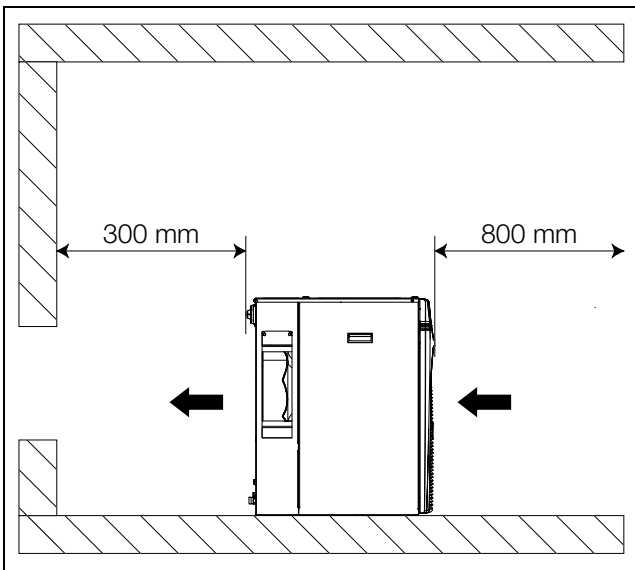
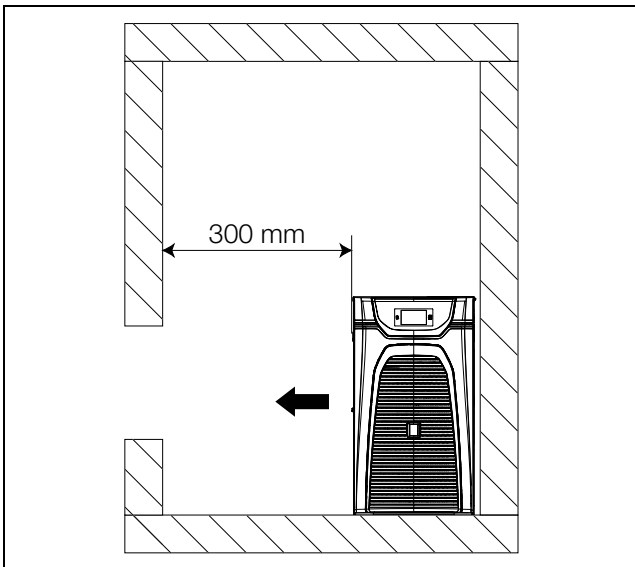

Fig. 10: Minimum distances, front/rear
Fig. 11: Minimum distances, sides
- At least one of the openings (left or right) must be freely accessible to enable the unhindered expulsion of hot air (see fig. 11). To allow connection of the supply lines and facilitate maintenance and repair work, the minimum distances shown under fig. 10 should be adhered to.
- In order to avoid an "air short-circuit" (mixing of air intake and waste air) and ensure full cooling performance, the minimum distances shown under fig. 10 should likewise be adhered to.